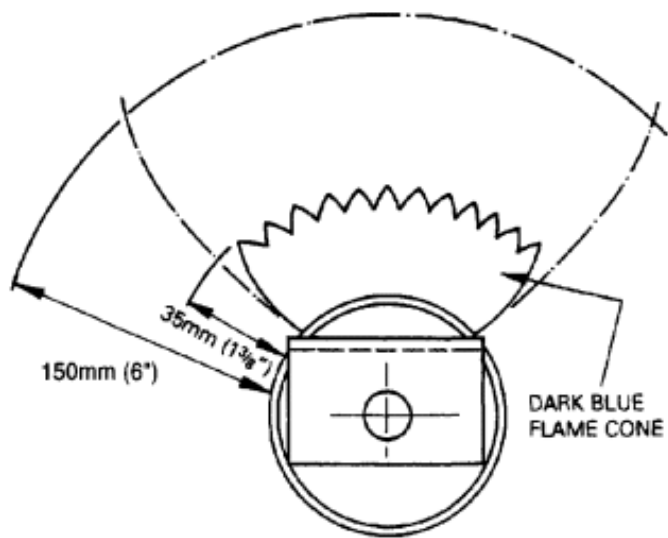

Fig. 6 Aga Gas Cooker - All Models DESN 510818
11. Visually check main burner and pilot flame for correct flame pattern. An established main burner at high fire will be predominantly blue with yellow tippings on an even height flame strip and be about 150mm (6in) high. See Fig. 6. Ensure all flameports have cross-lit and that the pilot light flame is free from sooting.